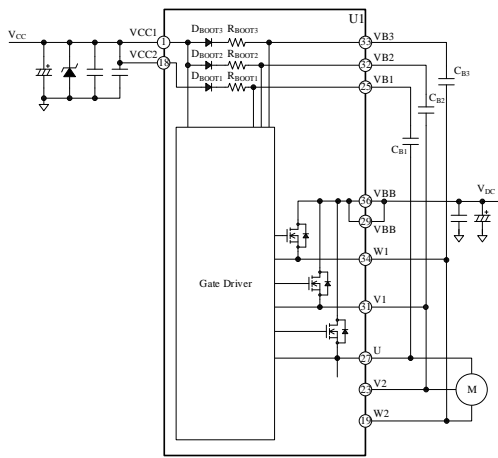

Figure 10-11. Bootstrap Circuit
As Figure 10-11 shows, a bootstrap diode, D_{BOOTx} , and a current-limiting resistor, R_{BOOTx} , are internally placed in series between the $VCCx$ and VBx pins. Time constant for the charging time of C_{Bx} , τ , can be computed by Equation (3):